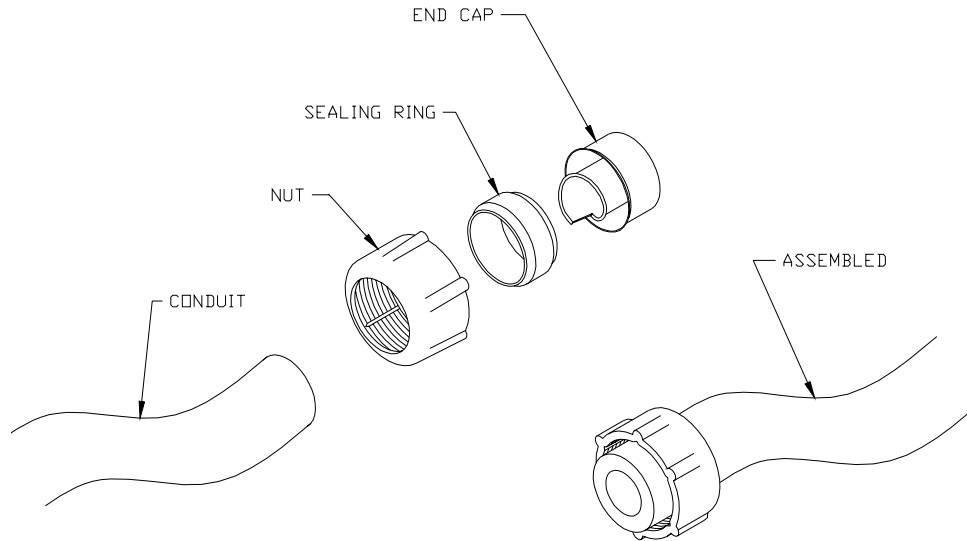

Figure 18 - Liquid Tight Connector
2. Place the nut, with threads facing outwards, over the conduit (see Figure 18).